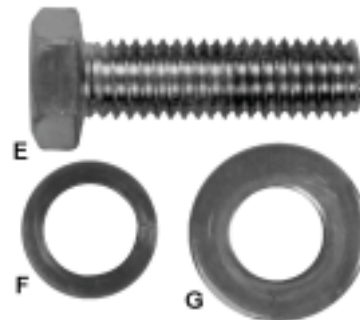

Figure 5
1. Remove *shipping bracket* (A) securing the *motor* (C) to table.
2. Remove the remaining *hex cap screw*, *lock washer*, and *flat washer* (Fig. 5) in the table edge.
3. Install *motor cover* (G) by aligning the *pins* (H) on the cover with *brackets* on the cabinet.
4. Fasten cover by pulling out the *latch* (J), closing the door, and releasing the latch.
1. Attach the left *extension wing* (A) to the *table* (B) with three each *hex cap screws* (E), *lock washers* (F) and *flat washers* (G). Snug so the extension wing can still be manually adjusted but do not tighten.
2. Adjust the extension wing horizontally so the front edge is flush with the front edge of the saw table (C). Then, using the straightedge as reference, adjust vertically so the tops of the extension wing and saw table are flush.
4. Remove the mounting hardware (Fig. 5) from the table on the right side; then attach the right extension wing in the same manner.